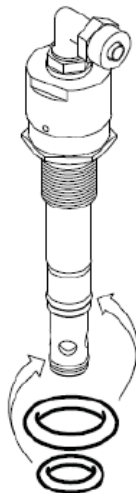

Figure 5-18 Pneumatic pressure control valve
7. Remove the old O-rings, and disassemble and clean the pressure control valve. Refer to Figure 5-18 for a detailed drawing of the valve.